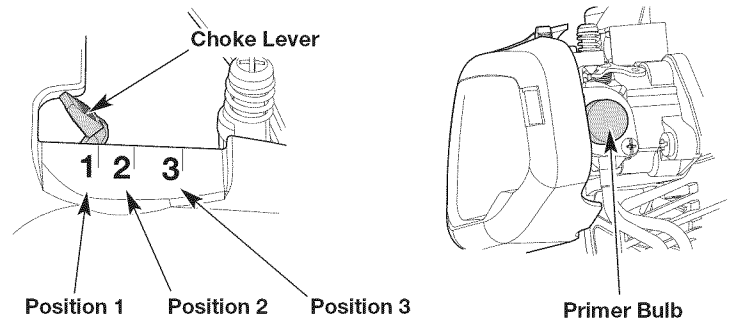

Fig. 8
3. Slowly press and release the primer bulb **10 times** (Fig. 8). If fuel cannot be seen in the primer bulb, press and release the primer bulb until fuel is visible.
4. Move the choke lever to **Position 1** (Fig. 8).
7. Continue to squeeze the throttle control. Move the choke lever to **Position 2** (Fig. 8).
10. Continue to squeeze the throttle control. Move the choke lever to **Position 3** (Fig. 8) and continue warming the engine for an additional 60 seconds. The unit may be used during this time.
**IF...** the engine hesitates, return the choke lever to **Position 2** (Fig. 8) and continue the warm-up.
8. Continue to squeeze the throttle control. Move the choke lever to **Position 2** (Fig. 8).
12. Continue to squeeze the throttle control. Move the choke lever to **Position 3** (Fig. 8) and continue warming the engine for an additional 60 seconds. The unit may be used during this time.